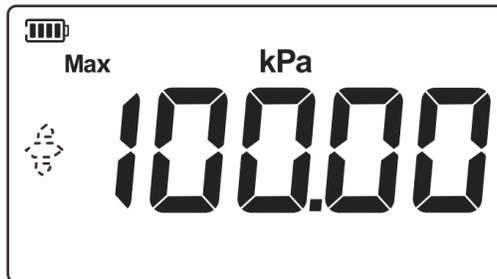

Figure 16 Upper limit calibration point
3. Display the upper limit calibration point, as shown in Figure 16, the identifier area displays Max to indicate the upper limit of calibration. The display area displays the pressure reference value being edited. If the user wants to change calibration point, just change it directly. If not, press the Enter button to confirm.